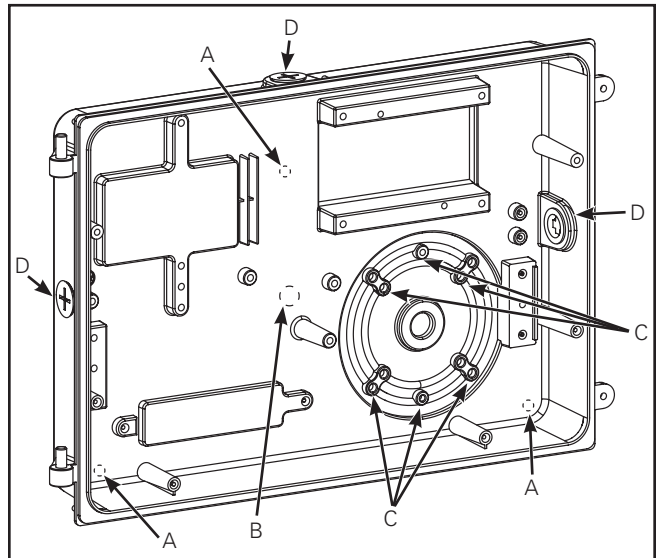

Figure 2.
2. Prepare the back plate for mounting by drilling or knocking out the appropriate holes. (Figure 2.)